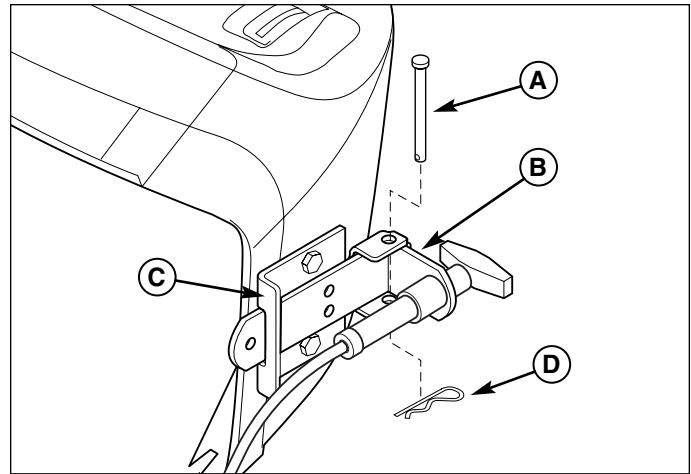

Figure 23. Install Remote Deflector Control
11. See Figure 23. Insert the deflector control handle (B) into the mounting bracket (C).
Secure the handle (B, Figure 23) using a clevis pin (A) and hair pin clip (D).
4. See Figure 23. Remove the hardware securing the remote deflector control, and remove the control.